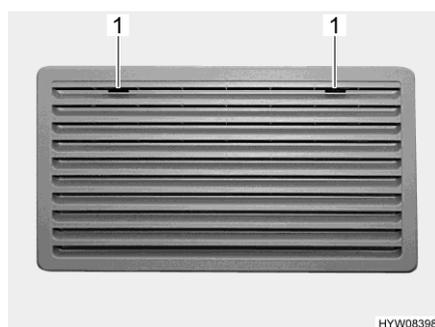
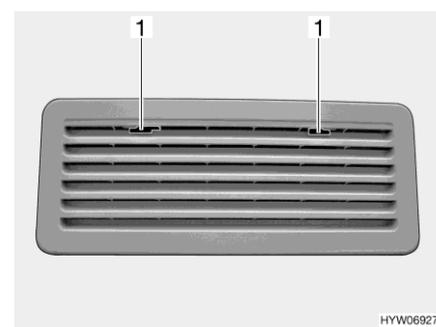

Fig. 263 Refrigerator ventilation grill (Thetford large)
Fig. 264 Refrigerator ventilation grill (Thetford small)
- Move the locking device (Fig. 263,1 or Fig. 264,1) to the middle.